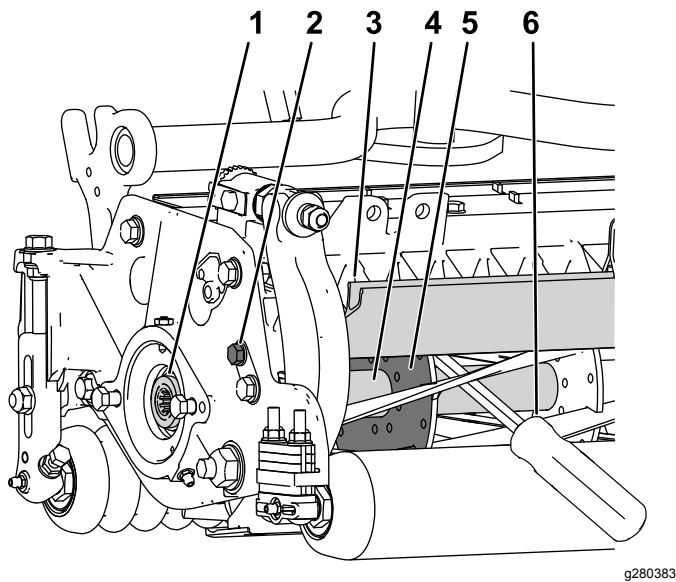

Figure 30
1. Loosen the shield-bolt on the left side of the cutting unit and raise the rear shield (Figure 30).
2. Insert a long-handled pry bar (recommended 3/8 x 12 inches with a screwdriver handle) through the back of the cutting reel, closest to the side of the cutting unit that you will be torquing (Figure 30).
3. Place the pry bar against the weld side of the reel support plate (Figure 30).